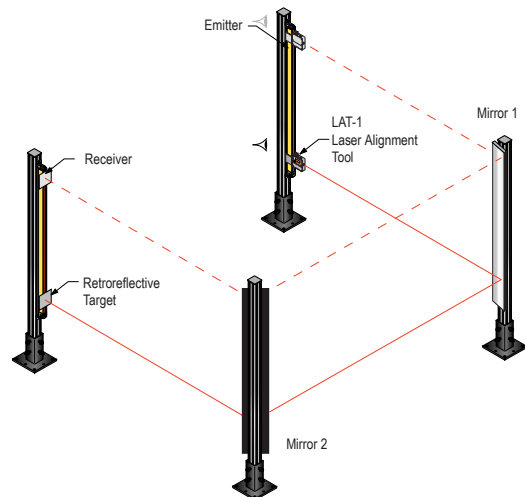

Figure 1. Aligning a corner-mirror light screen application using the Laser Alignment Tool
4. Standing behind the Alignment Tool, view the retroreflective target from behind the sensor (see Figure 1). Adjust either or both sensors and/or the corner mirrors as needed to place the laser image at the desired spot on the opposite sensor.